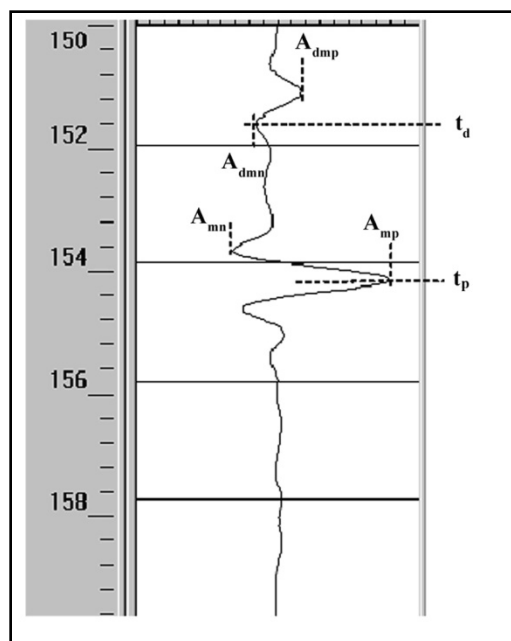
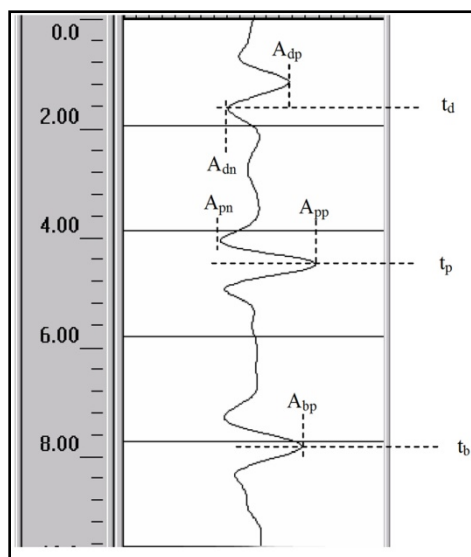

Figure 1: Information extracted from metal plate calibration scan.
Figure 2: Sample of Horn antenna data.
The first step is to extract all of the pertinent information from the data. Typically, a calibration scan is obtained with the horn antenna placed over a metal plate at the same elevation as a scan obtained over pavement. Figures 1 and 2 show the parameters extracted from the respective scans. At this time we are disregarding an optional scan also collected with the antenna radiating in free space. This is done for 2 reasons: (1) very similar results were obtained between data processed with and without the air-scan subtraction, (2) it is often difficult to obtain a high fidelity air scan in the field.
The parameters shown in Figures 1 and 2 are extracted from data obtained from the horn antenna positioned over a metal plate and the pavement, respectively. The “A” parameters are amplitudes. The “t” parameters are travel times. The amplitudes and travel times of the reflection from the pavement bottom (A_{bp} and t_b) are typically obtained after a template subtraction of a metal plate scan from the data scan (this is not shown in Figure 2).